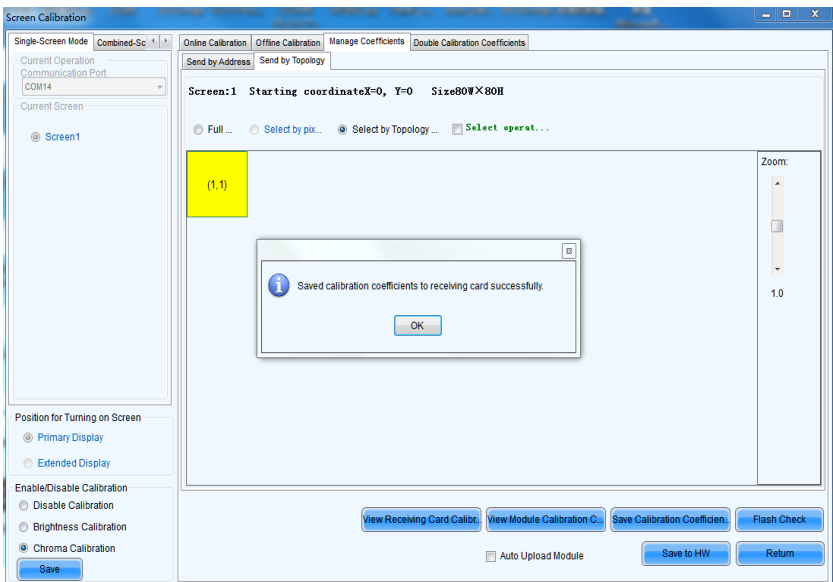

Figure A-13
m) At last, the dialog box pops up as Figure A-13, “Save Calibration Coefficients to receiving card successfully”, click “OK”.